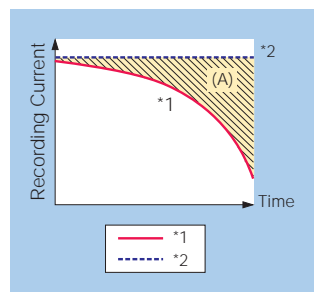

Fig.2
The relationship between the recording current without APC and time of usage is shown in (Figure 2). The ideal current is shown as (\*1). With conventional recorders, the current needs to be preset at a constant current shown as (\*2). This results in over-modulation, which occurs when an excessive current affects both the tape and recording head, deteriorating the picture quality. Over-modulation is shown as (A).